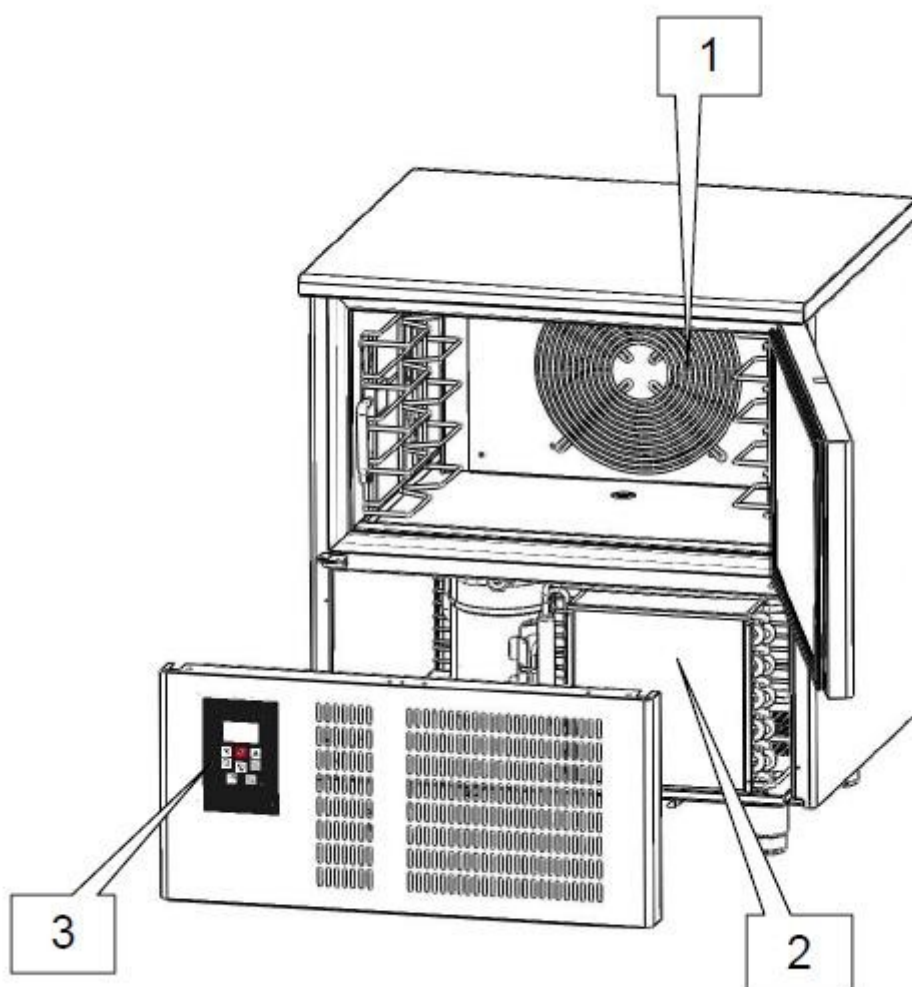

Fig. 3
- kondensor enhet (ref. 2, fig. 3)
- evaporator enhet (ref. 1, fig. 3)
- kontroll panel (ref. 3, fig. 3)